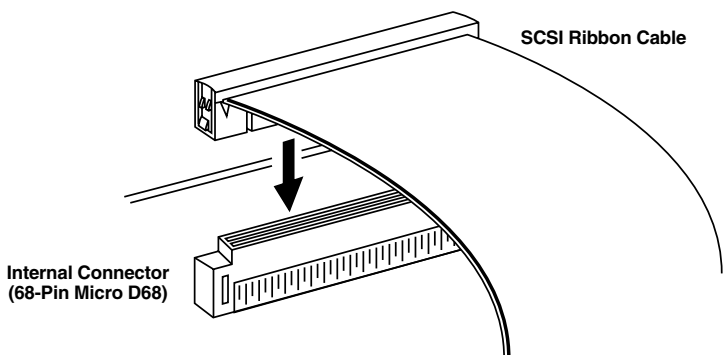

Figure 4-4. Plugging a narrow internal cable into the Adapter.
4. Plug one end of your internal SCSI cable into the Adapter's appropriate internal SCSI connector. (If you're using the cable included with the Adapter, plug in the *unterminated* end.) Make sure the colored stripe that runs the length of one edge of the cable is aligned with Pin 1 of the Adapter's connector. The cable should be keyed for proper insertion. Figure 4-4 below shows how to plug in this cable.